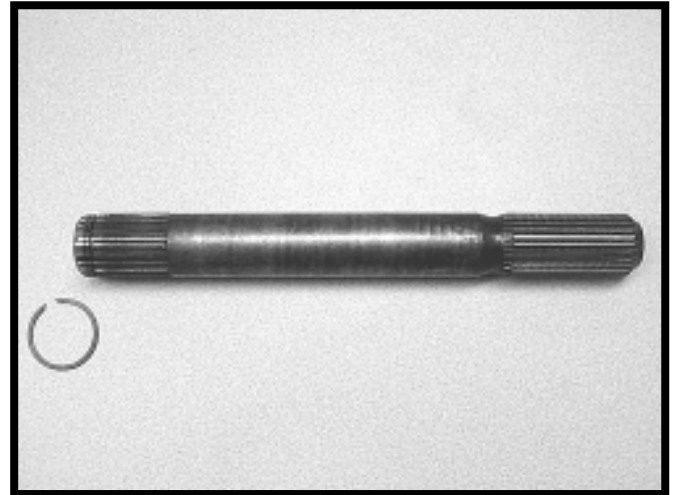

Figure 2-22, 5L50-E Output Shaft and Snap Ring
- If a 5L50-E SRTA unit is required, remember that the output shaft connecting the transmission to the final drive cannot be removed. The shaft is retained by a blind snap ring. Therefore, the old shaft must remain with the old unit and a new output shaft and snap ring must be ordered (figure 2-22). The new shaft and snap ring will not come with the SRTA